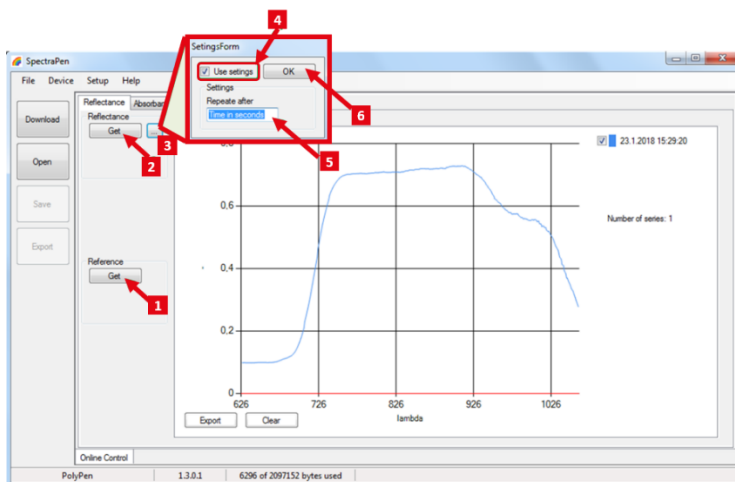

Fig. 24 Setting of reflectance or absorbance measurements in online control.
For manual remote measurement click *Get* button (Fig. 24 - 1).
1. Setting for automated remote measurement is possible using the button with three dots (Fig. 24 - 3). Here the time interval (Fig. 24 - 5) of the measurement is set. To apply this setting use the option *Use settings* (Fig. 24- 4) and confirm by clicking *OK* (Fig. 24 - 6). The measurement starts immediately and continues until it is manually stopped (*Stop* button).